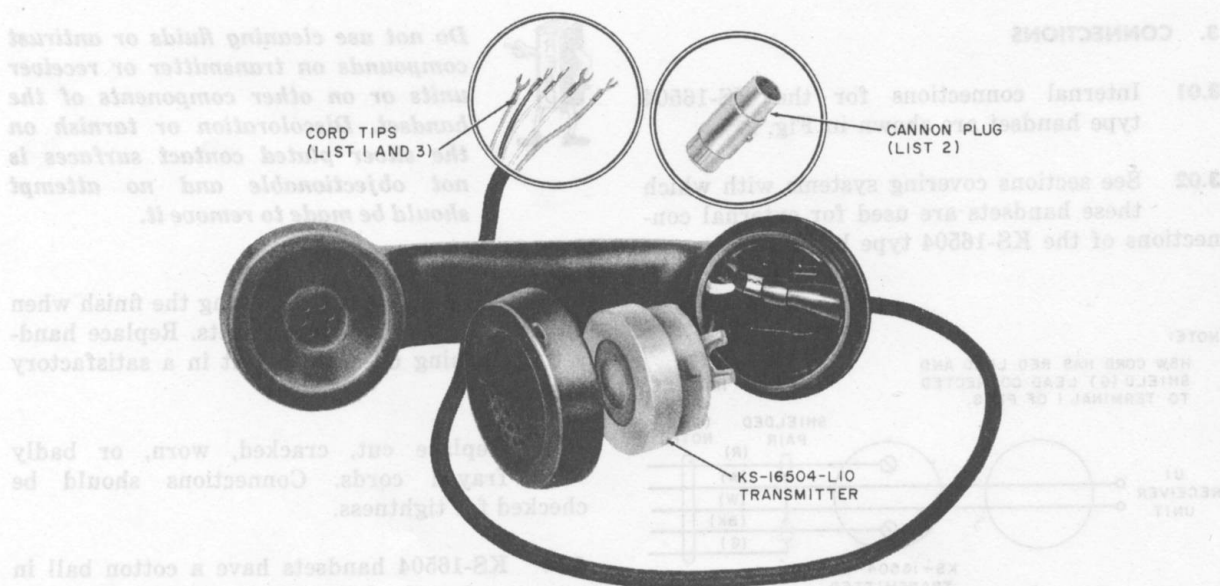

Fig. 1 — KS-16504 Handset
2.01 The KS-16504 type handset (Fig. 1) consists of a special transmitter unit, special transmitter cap, standard U1 receiver and receiver cap, and an H5U or H5W handset cord mounted to a B-186704 molded plastic handle. Table A lists the handsets with component parts and intended uses.